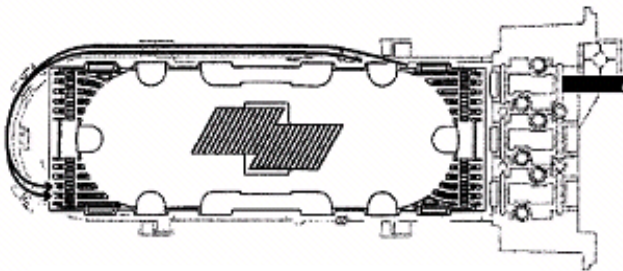

Figure 10c – Routing/Marking Bundles for Tray Entry
14.05 Temporarily install a splice tray into the tray support. While maintaining minimum bending radii, route a bundle up and into the tray. Place a mark on the bundle for the desired opening (this routing will provide sufficient working slack and bare fiber for splicing). See **Figure 10c**.